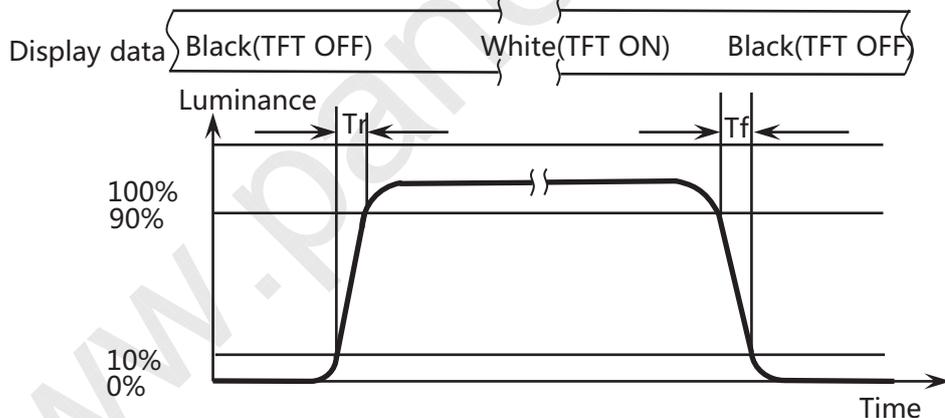

Figure 10. Response Time Testing
6. The electro-optical response time measurements shall be made as Figure 10 by switching the "data" input signal ON and OFF. The times needed for the luminance to change from 10% to 90% is  $T_r$ , and 90% to 10% is  $T_r$ .
The electro-optical response time measurements shall be made as shown in Figure 10 by switching the “data” input signal ON and OFF. Tr: The luminance to change from 10% to 90% ,Tf: The luminance to change from 90% to 10% .